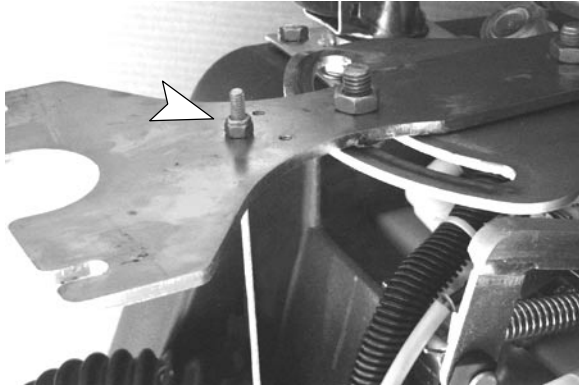

**Fig. 8**
6. Connect the spring to the filter mount bracket and to the squeegee mount bracket as shown (Figure 8).